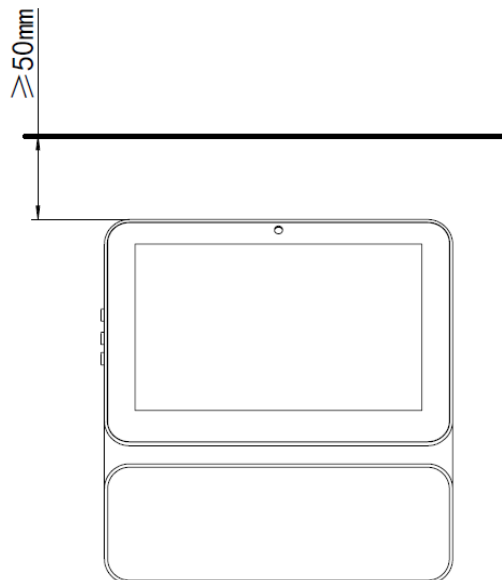

Fig. 2 Schematic diagram of top reserved space
- Please do not place the instrument in a position that is difficult to operate, in order to facilitate the safe operation and use of the instrument, it is recommended that a gap of not less than 50mm be left at the top of the instrument, or if placed on a desktop, the instrument should be placed at a distance of not less than 100mm from the edge of the desktop at the front and back of the instrument, and at a distance of not less than 50mm from the edge of the desktop at the two sides of the instrument, as shown in Figs. 2 and 3.